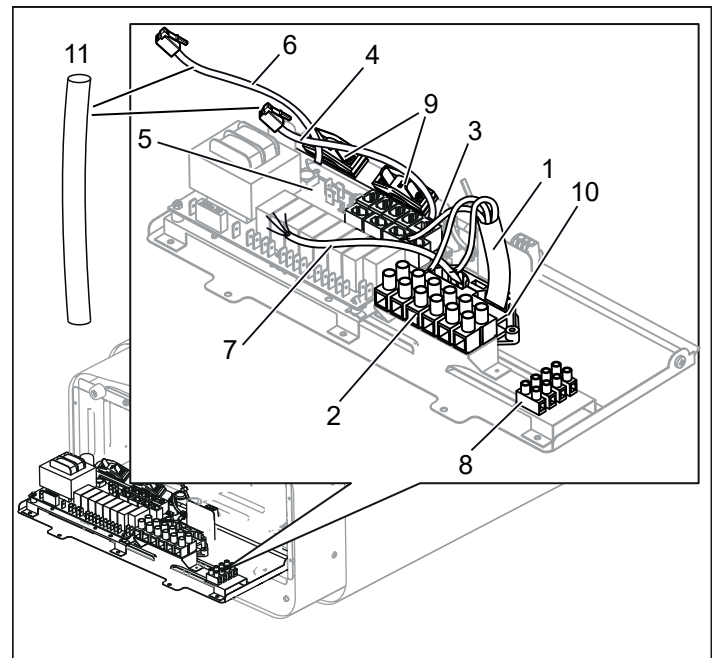

Figure 10: Circuit board
3. Connect the electrical cable (1) to the terminal (2) (see Figure 10) according to the wiring diagram (see the Connection/wiring diagram section, page 8).
4. Run the cables for the control panel and the temperature sensor through the cable grommets (3). Connect the control panel cable (4) to one of the four RS485 contacts (positions 5-8 Pure, 6-9 Elite) (see Figure 10) according to the wiring diagram (see the Connection/wiring diagram section, Fig 18 page 8).
6. Connect the light cable (if used) (7), see Figure 10, to the terminal (8) according to the wiring diagram Figure 18.